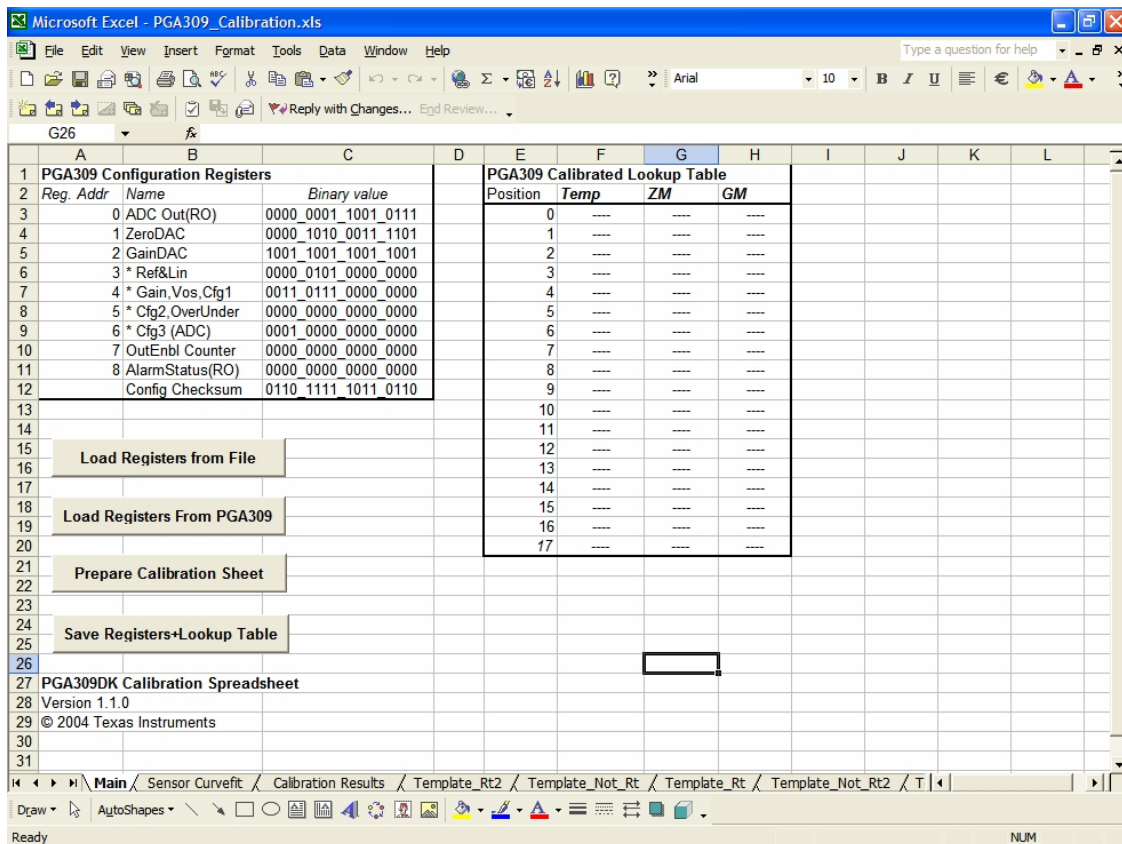

Figure 34: “Main” Worksheet
- 1) The “Main” Worksheet is shown in Figure 34. It contains the current values of the PGA309 register table, the lookup table and the control buttons.